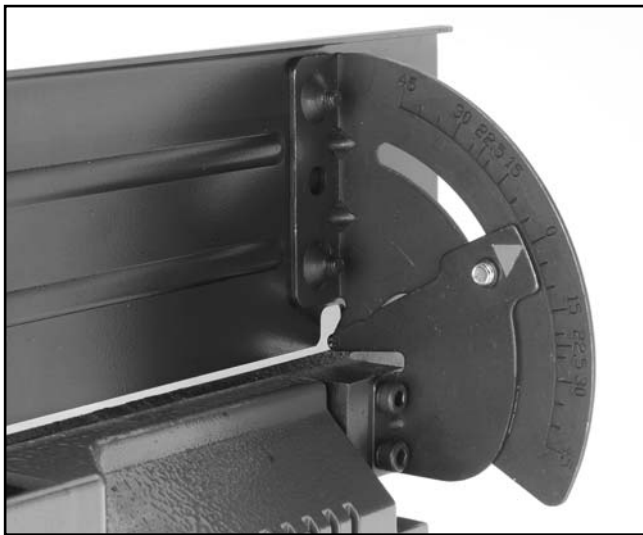

Figure 8. Angle gauge.
2. The angle gauge shown in **Figure 8** is behind the left end of the fence.